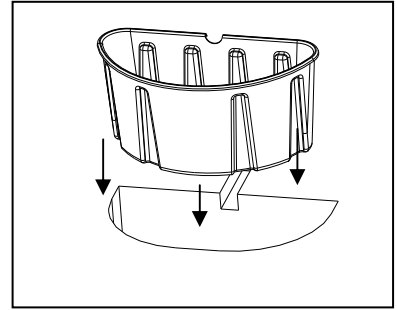

Fig. 3
3. Place the reservoir inside the hole. Make sure that it is level. Fig. 3